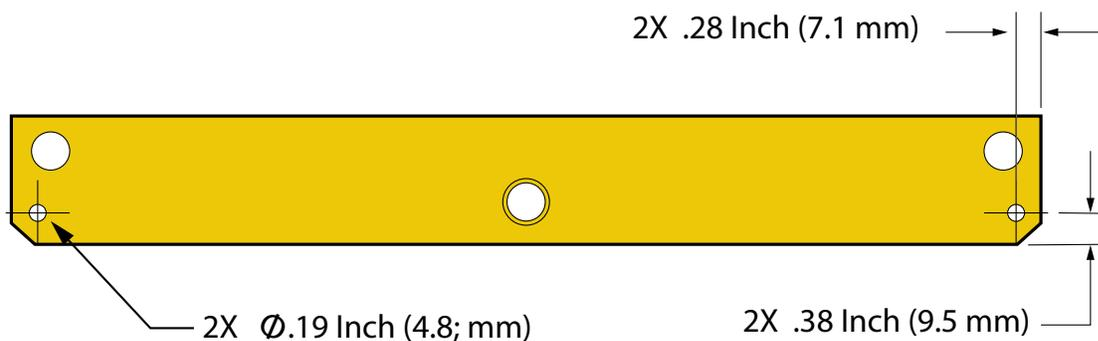

Figure 1: Modifying Existing Adjuster Plate (P/N: DT14614)
2. Drill the two 3/16" holes on the stabbing bell adjuster plate (Canrig P/N: DT14614) as shown in Figure 1.